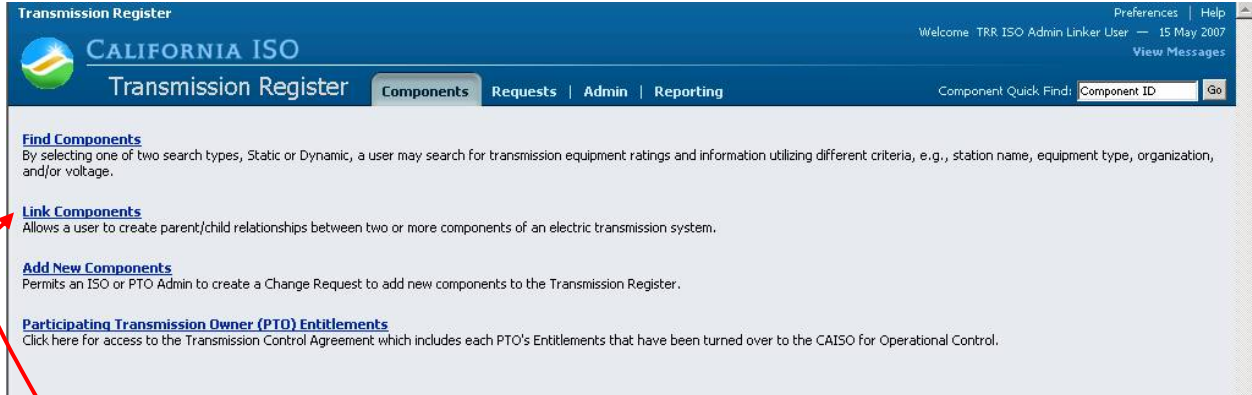

Figure 1. Components Home Page
- **Click** on the Components tab shown in Figure 1.